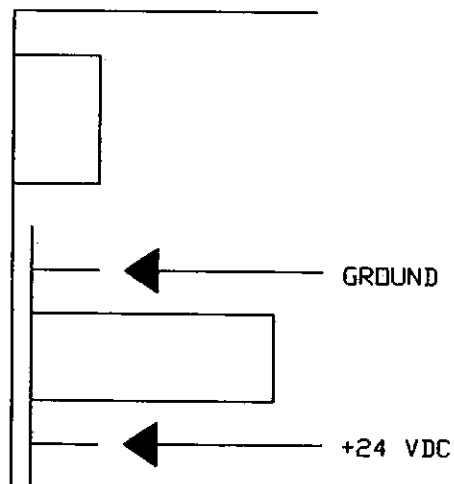

Figure 2
2.9 Clean the area the test point label, parts kit item #26, will be applied to and attach the label as per Figure 2.
2.13 Use Table 1 of Figure 2 for correct tip jack color location. Mount the tip jacks to the rear panel of the TCC using its associated star washer and bolt.
2.21 Using Table 1 of Figure 2 for correct connection, route the Orange wire to power supply 2 (PS2).
2.26 Perform a continuity test by using an ohmmeter to measure between the test point jacks and power supply edge connector pins. Refer to Table 1 of Figure 2.
2.28 Apply AC power to TCC on the work bench. Using a multimeter, verify the correct voltages correspond to each test point as indicated in Table 2 of Figure 2. Refer to the AN/FPN-60(V) Series Transmitter Control Set Technical Manual for power supply adjustments.
2.31 Reconnect AC power. Using both a digital multimeter and oscilloscope check the power supply voltages and ripple. Refer to Table 2 of Figure 2 for proper voltage levels.